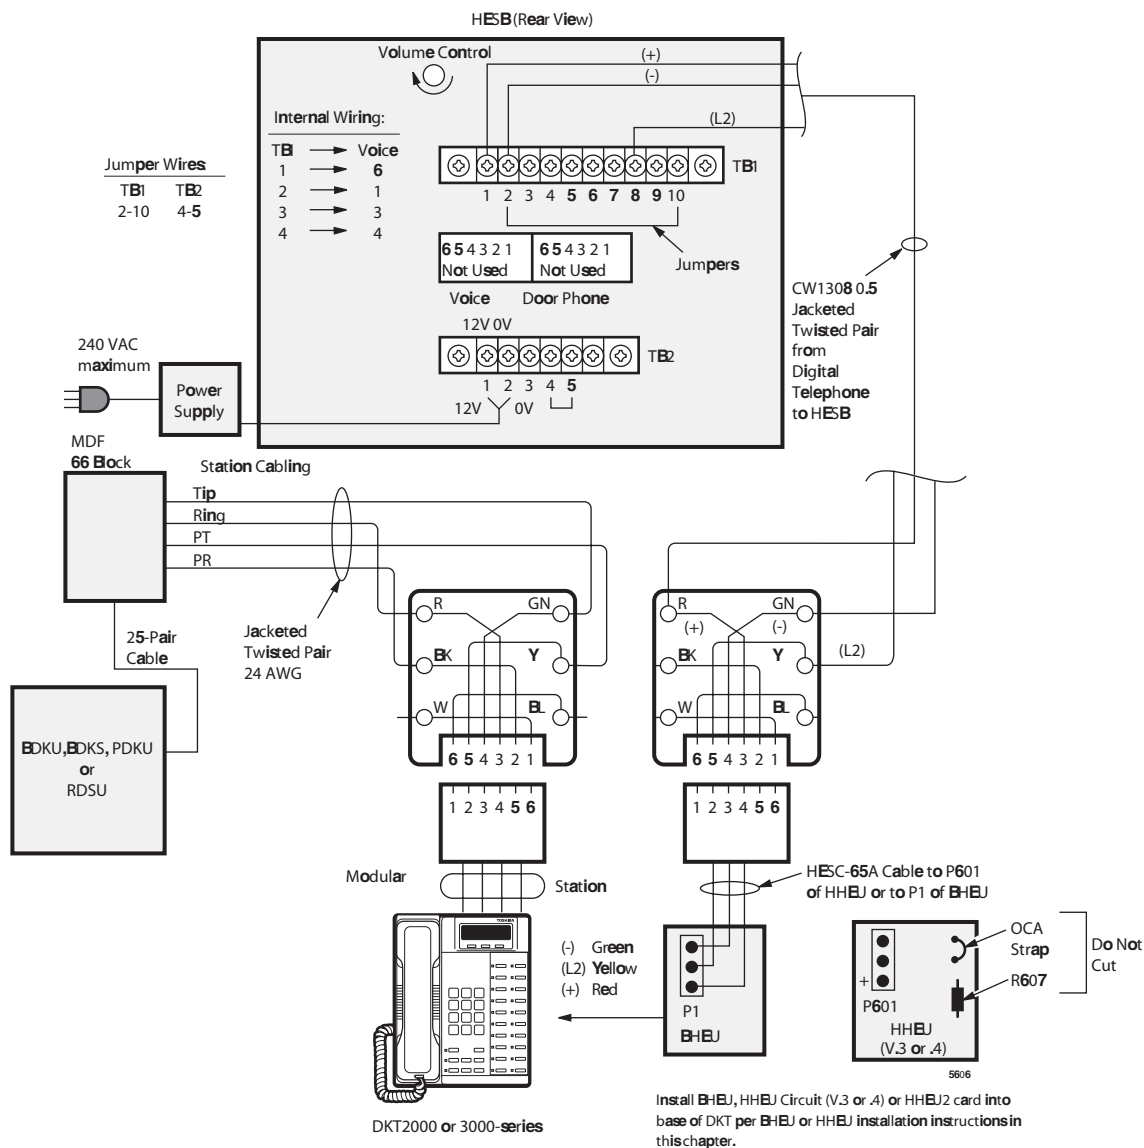

Figure 8-21 Wiring the Telephone External Ringer with HESB Interface
1. Connect a jumper between terminals 2 and 10 on the HESB TB1 terminal block (Figure 8-21).
7. Connect station wiring (see Figure 8-21).